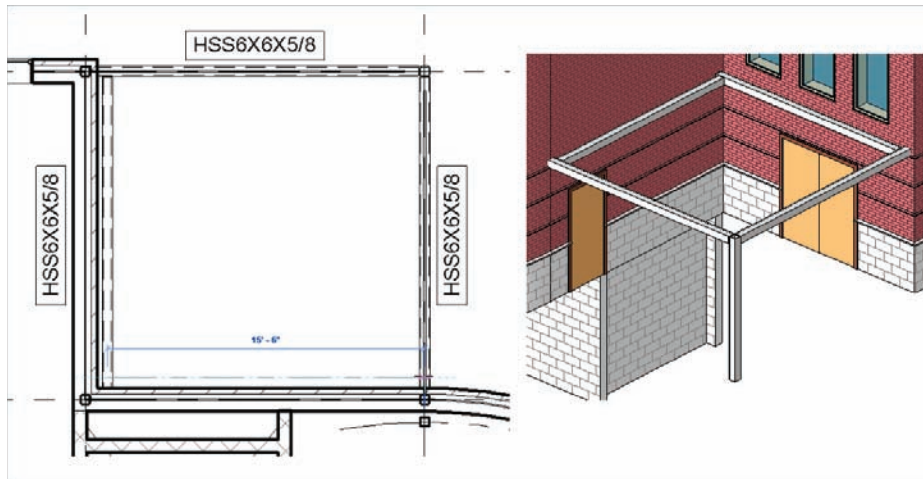

FIGURE 8.38 Completing the framing for the canopy
12. Draw another beam from the left to the right, 6" (150mm) off the finish face of the wall, as shown in Figure 8.38.